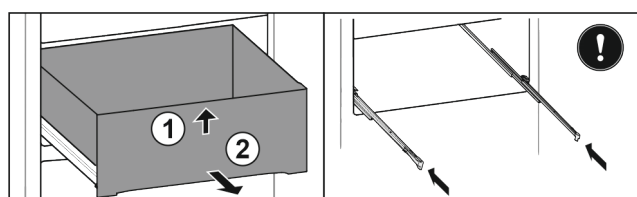

Fig. 28*
- ▶ Lift up the drawer at the front Fig. 28 (1).*
- ▶ Take out to the front Fig. 28 (2).*